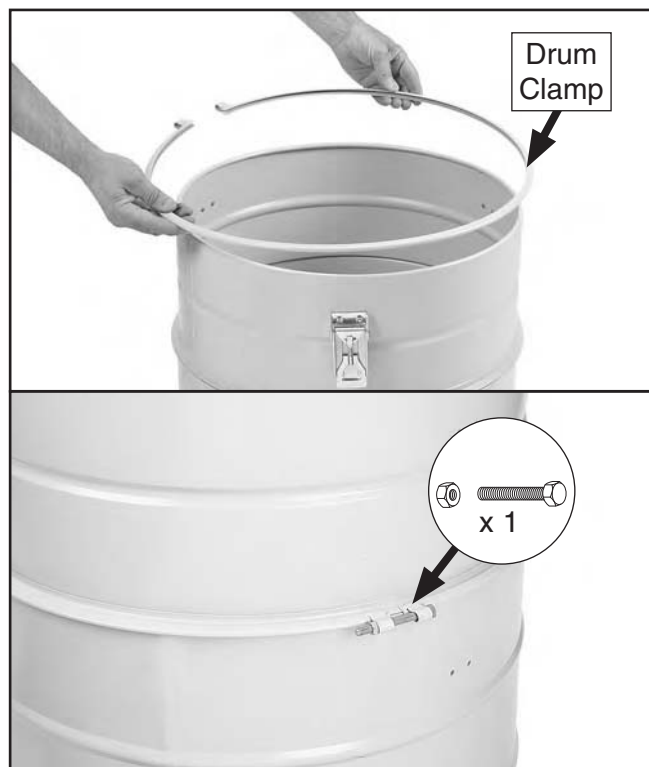

Figure 22. Installing drum extender with the drum clamp.
13. Secure the drum extender to the drum with the drum clamp. Use (1) $\frac{5}{16}$ "-18 x 3" hex bolt and (1) $\frac{5}{16}$ "-18 hex nut to secure the clamp (see **Figure 22**).